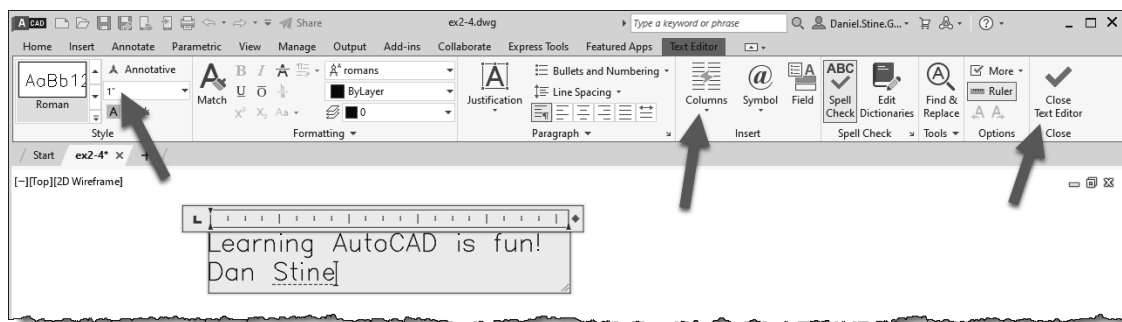

FIGURE 2-4.3 Mtext; text typed in text editor window; Text Formatting ribbon displayed
6. In the *Mtext Editor* you will type the following text (Figure 2-4.3):
7. When finished typing text, click the **Close Text Editor** button on the *Ribbon* shown in Figure 2-4.3 above; notice the *Ribbon* changes while in text edit mode.
**TIP:** With the Mtext Editor open (Figure 2-4.3), you can Copy/Paste text in from other programs such as MS Word. Most of the formatting (e.g., font, bold, underline, etc.) will be preserved.